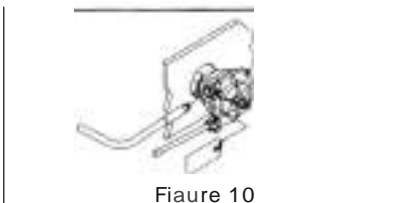

Figure 10
**STEP 2.** Remove protective sleeve from cable end, making sure that dirt does not get onto the lubricated cable end. Feed cable end into UPPER helm entry spigot until it contacts the internal gear, then turn steering wheel counterclockwise to draw cable fully into the helm (see Figure 10). Continue turning wheel until end fitting of cable is entered into the entry spigot, and wheel cannot be turned further. During this you may hear a click as the backing mechanism engages. Turn steering wheel fully in the other direction until it cannot be turned any further, and check that the cable end fitting is retained inside the entry spigot.
**STEP 1.** Push both output rams of the cables to the fully retracted position. Make sure that they stay fully retracted during installation into the helm. Remove the protective sleeve from the steering cables, and make sure that dirt does not get onto the lubricated cable ends. Hold both cables together at the helm end with the laces of the conduit fittings flush as shown in Figure 10.